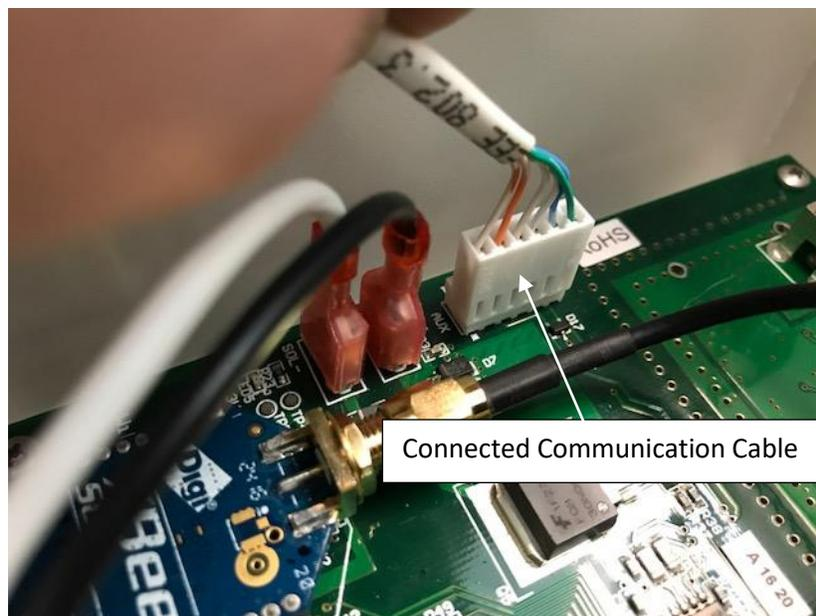

Fig 16
- Carefully connect the communication cable to its receptacle on the circuit board (Fig. 16).